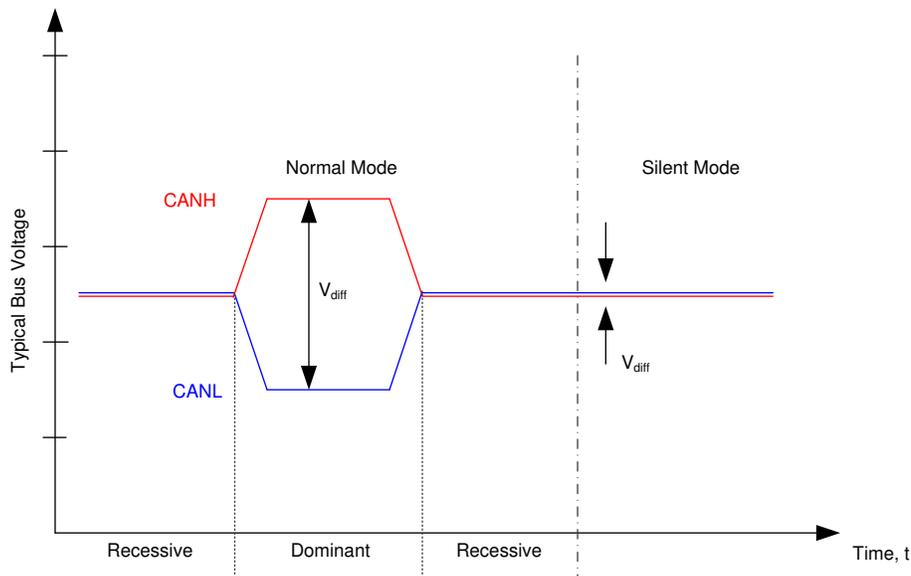

Figure 8-1. Bus States
The CAN bus has two logical states during operation: recessive and dominant. See Figure 8-1.
(1) X = irrelevant
(2) For bus state see Figure 8-1